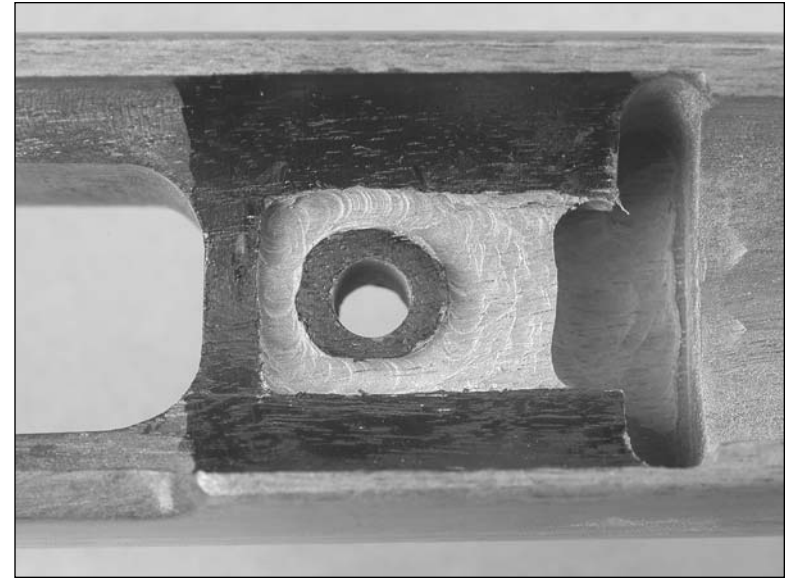

Figure 4D: Properly relieved lug recesses. It does not extend to the edges of the receiver, but does go all the way to the bottom of the receiver lug cut.
5. Use a 1/4” wood chisel, or a Dremel™ type tool with a 1/8” to 3/16” bit to remove stock material from the desired area, all the way to the bottom of the lug recess. (See Figure 4D).